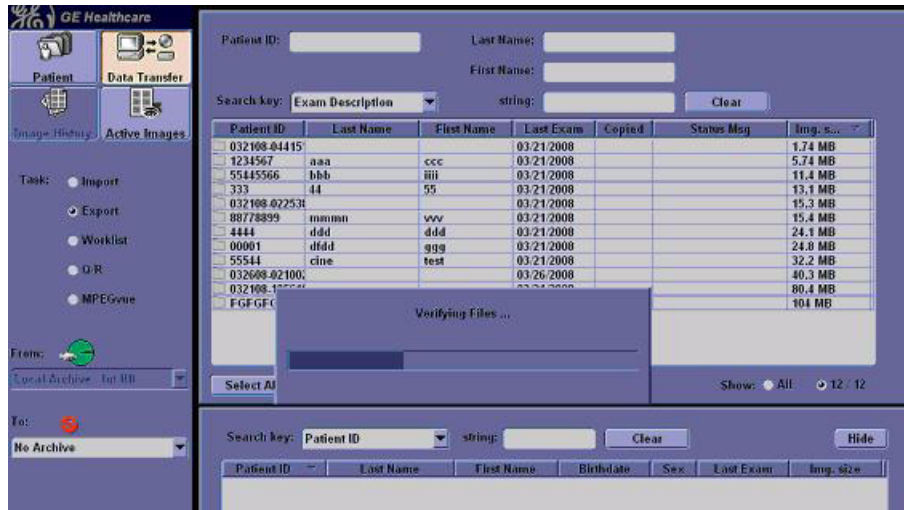

Figure 4-12 Verifying
- 6.) If desired, verify that the format was successful by returning to *Utility > Connectivity > Removable Media* and selecting VERIFY as shown in Figure 4-12.